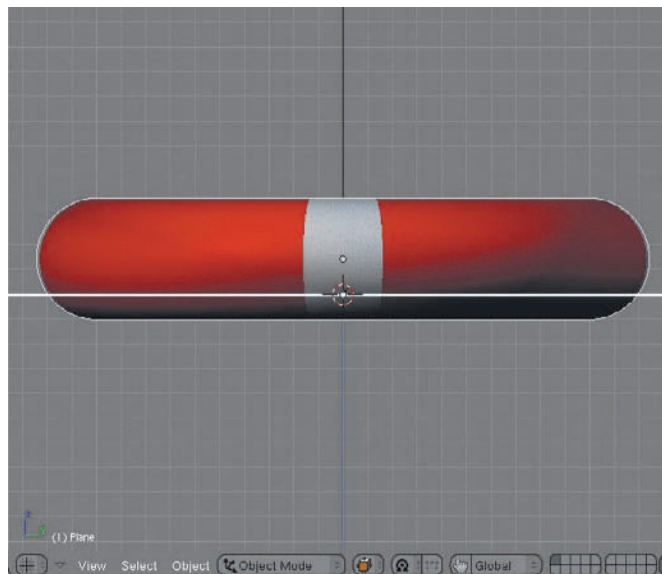
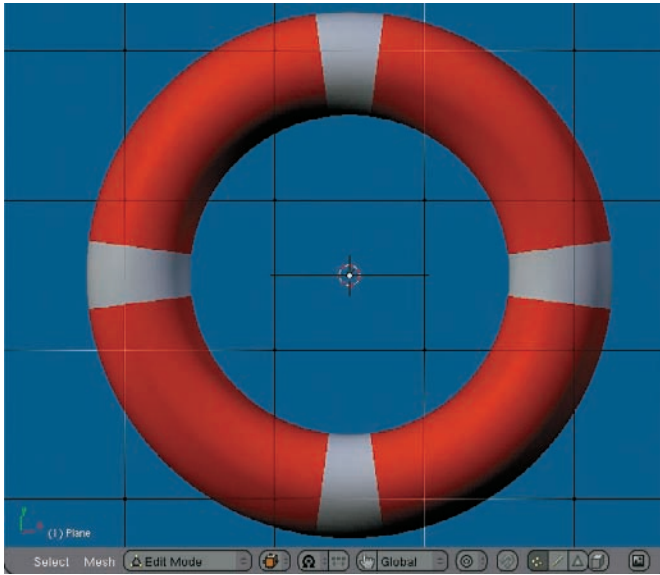

Figure 1.51 The life ring's basis floating position
Figure 1.52 Three vertices selected for vertex parenting
12. In Object mode, move the torus up slightly, as shown in Figure 1.51. With the torus selected, Shift-select the plane and enter Edit mode with Tab. Select three vertices in the plane in places that correspond to points on the ring, as shown in Figure 1.52. Press Ctrl+P to make the vertex parent. Set the modifiers on the plane to display in the 3D view again and preview the animation by pressing Alt+A. The life ring should follow the motion of the displaced surface, floating gently on the waves.